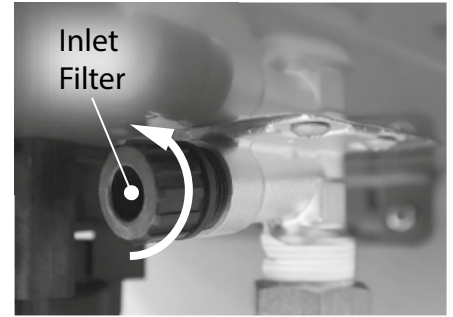

Figure 2 - Removing the inlet filter
- 8 Locate and remove the inlet filter as shown in Figure 2 to drain any residual water left in the system. Place a bucket or pan underneath inlet filter to collect water during removal.